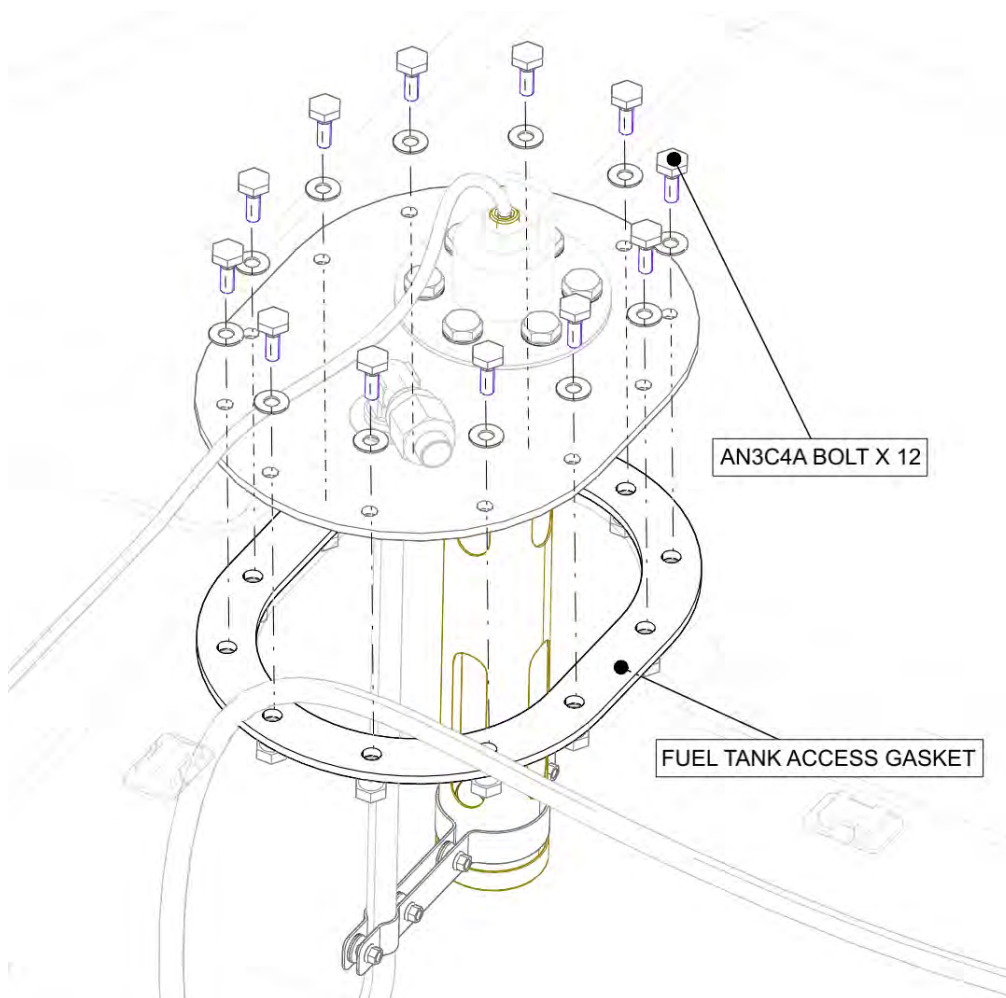

FIGURE 13-37
- a. Remove 12 bolts and washers from the Fuel Tank Access Plate. See Figure 13-37.